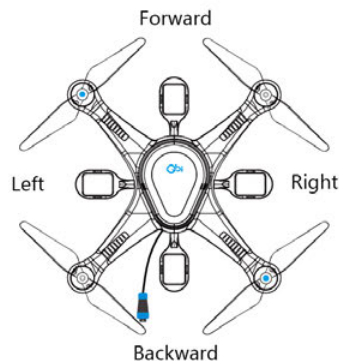

Figure 5: Illustration of drone orientation
- ① **Before takeoff, it is necessary to pull out all the mooring cables from the box, otherwise it may cause overheating of the cables and damage the system.**
- ② To turn on or use the Tethered Box, it needs to be connected to a 220V power supply or a generator.
- ③ Due to the special nature of gasoline, users need to purchase it themselves and add gasoline to the generator before use.
- ④ If using a diesel generator, a dedicated power converter head is required. Please insert the converter head into the generator's power output port before connecting it to the tethered box.
- ⑤ For information on the daily use, maintenance, and upkeep of the generator, please refer to the "User Manual" provided by the generator manufacturer.
- ⑥ By default, please turn off the automatic cable retraction switch when the drone is hovering in the air.
- ⑦ After the system is unplugged from the external power supply, the box buzzer will sound and stop automatically after 7 minutes."
- ① The orientation of the drone itself (as shown in Figure 5): the rounder part of the blue and white top cover on top is the front of the aircraft, while the sharper part is the tail.
- ② When flying at night, you can determine the orientation of the drone by the colors of the lights on the underside of the wings. The side with the red lights illuminated is the front of the aircraft, while the side with the blue lights illuminated is the rear.